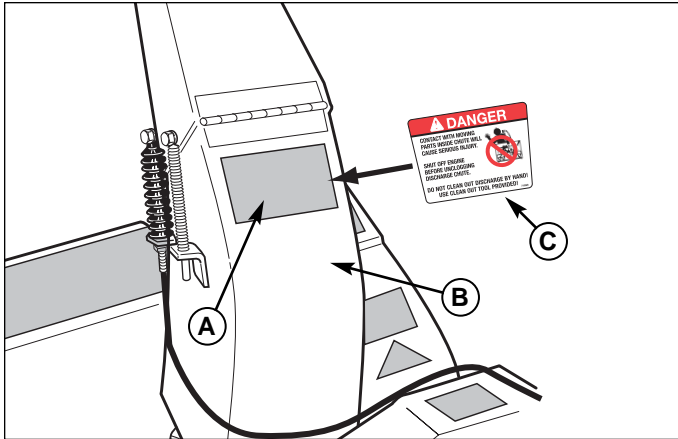

Figure 2.
1. Clean and dry existing danger decal (A, Figure 2) and surrounding area.
2. Apply new decal (C) by removing the backing from decal and placing directly over existing decal (A) aligning top edges of both decals.